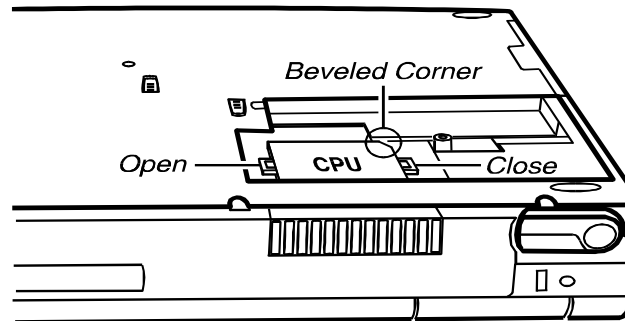

FIGURE 7-15. REMOVING THE CPU
2. TO INSTALL THE CPU, ALIGN THE BEVELED CORNER ON THE CPU WITH THE BEVELED CORNER OF THE SOCKET AND INSERT THE CPU PINS INTO THE HOLES. INSERT A FLAT SCREWDRIVER TO THE CLOSE SIDE (SEE FIGURE 7-15 EARLIER) OF THE SOCKET AND PUSH THE SCREWDRIVER TOWARD THE CPU TO SECURE THE CPU IN PLACE. (SEE FIGURE 7-15 EARLIER).